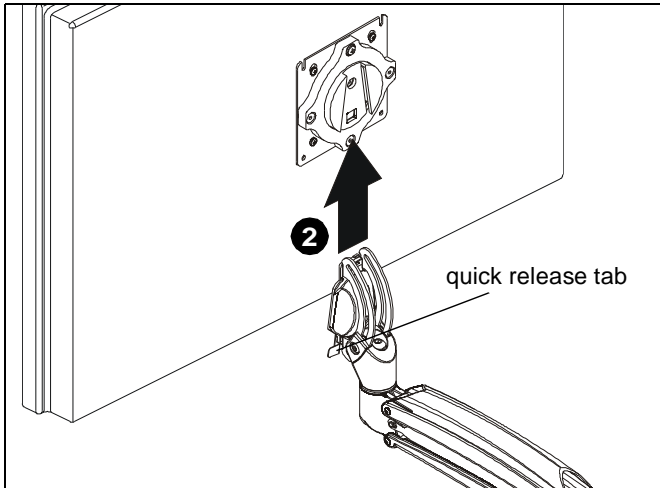

Figure 13
WARNING: Only remove display from mount when the display can be lifted up from the mount! DO NOT remove display unless the display is in the upright position! (See Figure 13)
2. Remove quick release faceplate from mount by pulling quick release lever and sliding faceplate off mount. (See Figure 13)